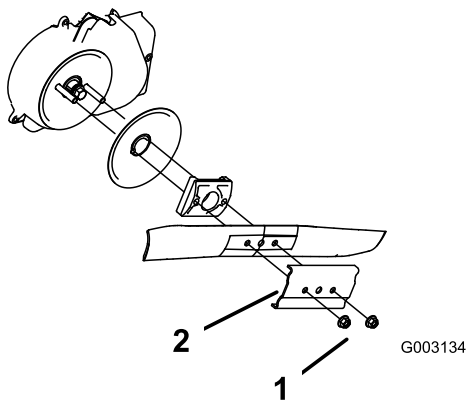

Figure 34
3. Remove the 2 blade nuts and the stiffener (Figure 34).
4. Remove the blade (Figure 34).
5. Install the new blade (Figure 34).